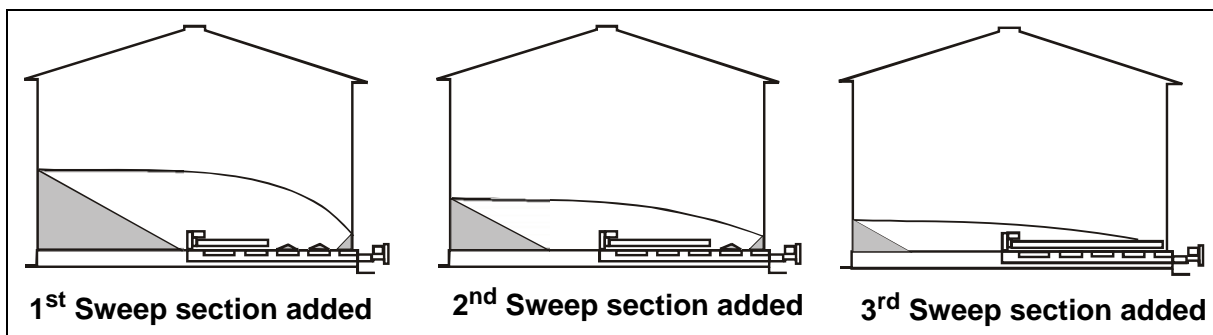

Figure 5F
- The Commercial Bin Sweep Augers are made with the sweep auger and back shield in two (2) or more sections. One of the sections can be used first alone by attaching the section to the drive unit and mounting the reduction wheel on that section. Then, after the center portion of the bin has been emptied, another section of sweep auger and back shield may be added and the unloading process continued. (See Figure 5F.) If the sweep is equipped with a truss, be sure to tie-off extra cable length so it does not become entangled in the sweep auger. Always shut down the unloading equipment and lock out power before entering the bin.